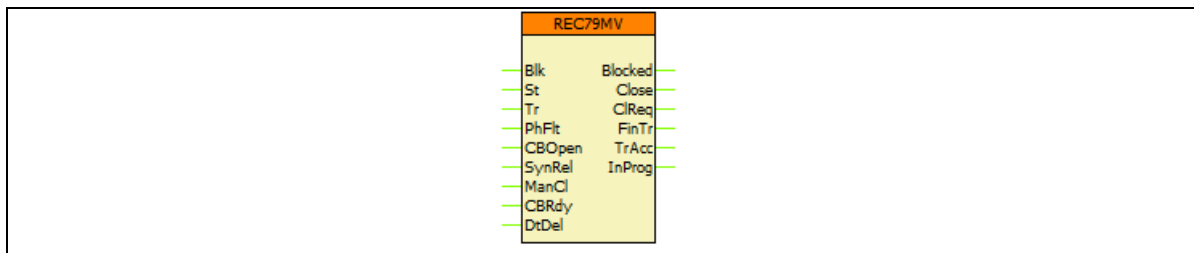

Figure 2-1 The graphic appearance of the MV AutoReclosing function block
The graphic appearance of the Automatic Reclosing (HV) function block is shown in Figure 2-1. This block shows all binary input and output status signals that are applicable in the logic editor.